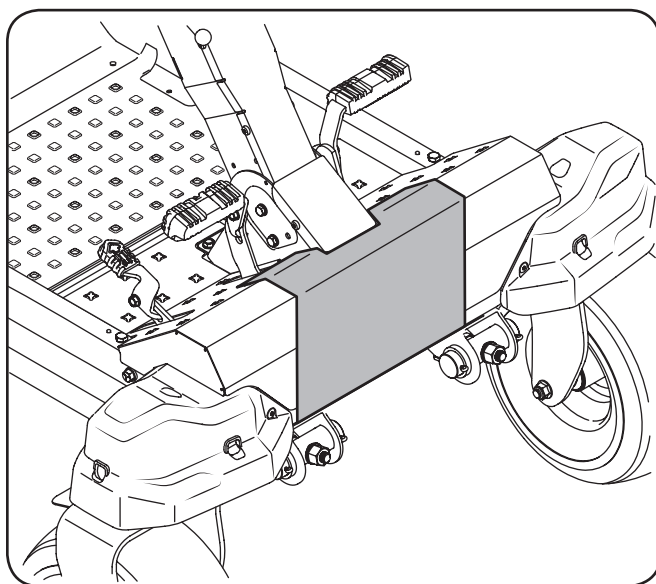
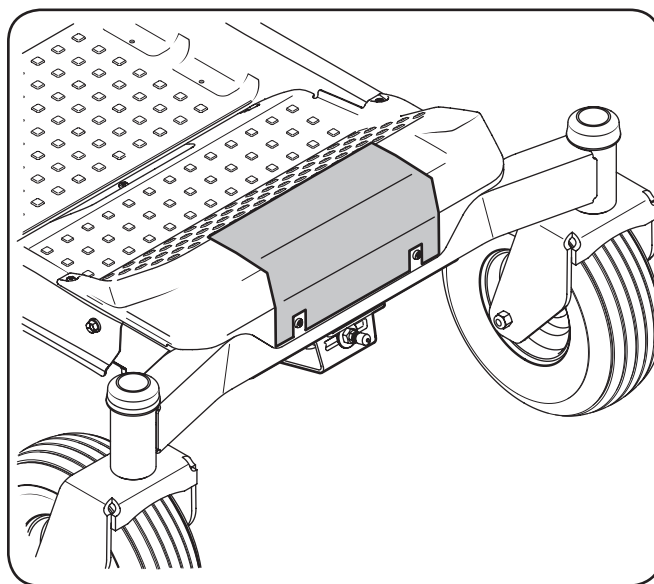

Figure 1-1
Figure 1-2
- Align the template according to the instructions and tape in place. See Figure 1-1 for the RZT-S and Z-Force SZ and see Figure 1-2 for RZT-L and Z-Force L/LZ models. Center-punch the holes to mark the location of the holes to be drilled.